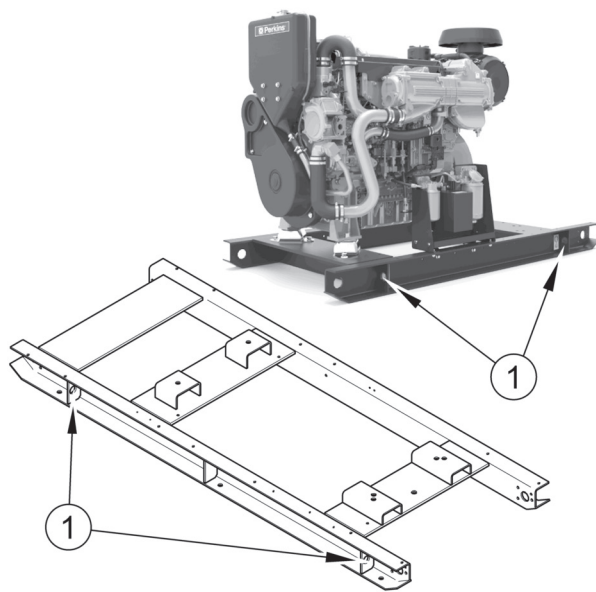

Figure 2
Lifting points have been provided on the base rails of the auxiliary set for lifting the entire package (figure 2 item 1).